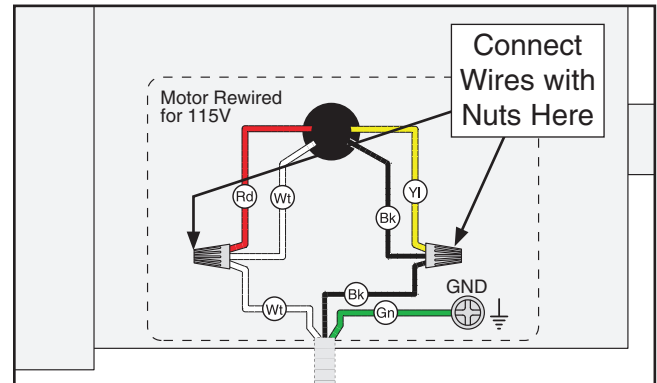

Figure 7. Motor rewired to 115V.
4. Use wire nuts to connect wires as indicated in **Figure 7**. Twist wire nuts onto their respective wires and wrap them with electrical tape so they will not come loose.